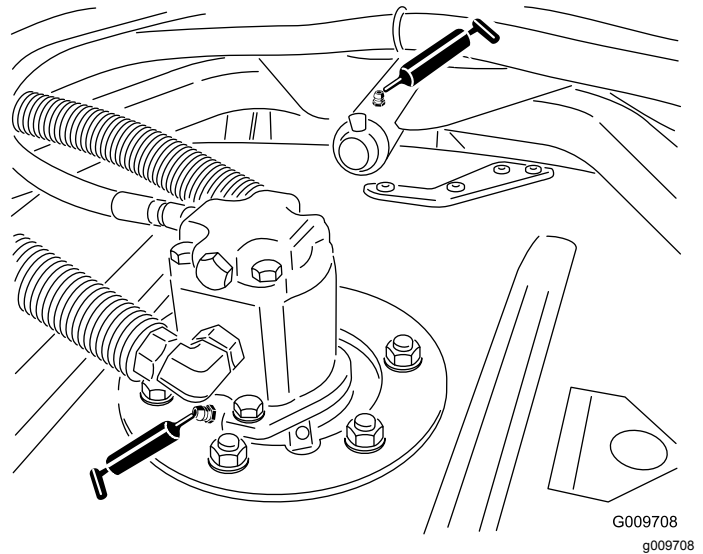

Figure 47
- Cutting unit spindle-shaft bearings (1 per cutting unit) (Figure 47)
- Cutting unit carrier-arm bushings (1 per cutting unit) (Figure 47)